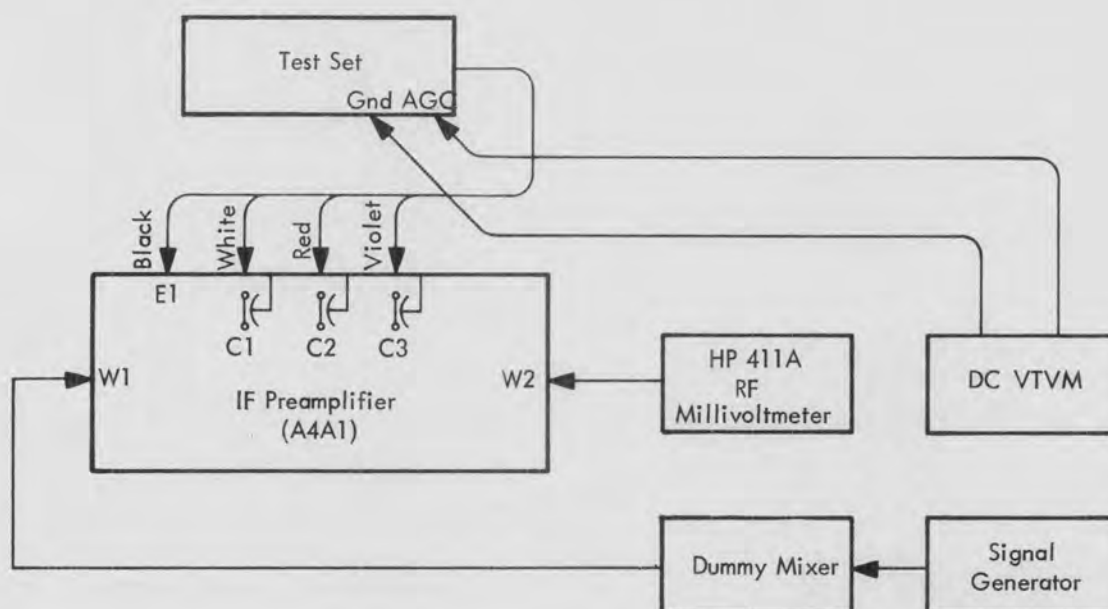

Figure 5-7. AGC Adjustment and Measurement Setup
- (1) Connect test equipment as shown in figure 5-7. Adjust AGC control to zero.